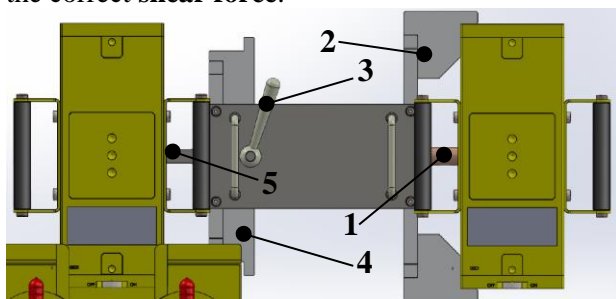

Figure 3: shear force test unit
10. Turn the lever (3) to the position in which the sensor pin (1) is retracted as far as possible.
11. Attach the safety line and position the test unit with the anchor point fork (2) against the anchor magnet. The 3 magnets at the lower end ensure that the test sheet sticks to the wall. Clean the wall to ensure proper adhesion.
12. Attach the safety line and position the console against the support of the counter magnet fork (4) as shown in figure 3. Position the counter magnet. Switch the counter magnet on.  Check with both hands whether the magnet is securely fastened.
16. Turn the lever (3) until the required force (see MEASUREMENT SHEET) is reached.
18. Turn the lever (3) back to retract the sensor pin (1).